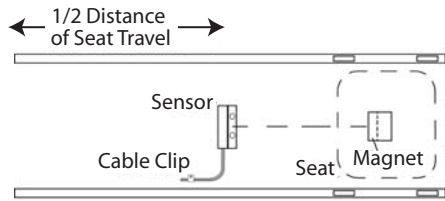
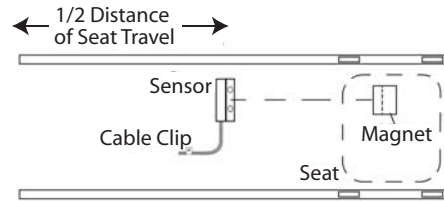

FIGURE 1a: SENSOR & MAGNET INSTALLATION (Sensor Installed on Centerline of Seat)
FIGURE 1b: SENSOR & MAGNET INSTALLATION (Sensor Offset Centerline of Seat)
Refer to Figures 1a and 1b. Note the position of the sensor - it should be close to the center of the seat travel and it MUST be perpendicular to the long axis of the shell.
It is not necessary for the sensor and magnets to be centered between the rails as shown in Figure 1a. They may be positioned off center as shown in Fig 1b. However, the holes in the magnet assembly MUST pass directly over the holes in the sensor. The dashed horizontal line in each figure indicates the correct alignment.
- 5) Return the stroke seat to its slide and check that the clearance between the magnet and sensor is no more than 10 mm (refer to Fig 2). Check also that the magnets pass directly over the sensor (refer to Figures 1a, 1b).